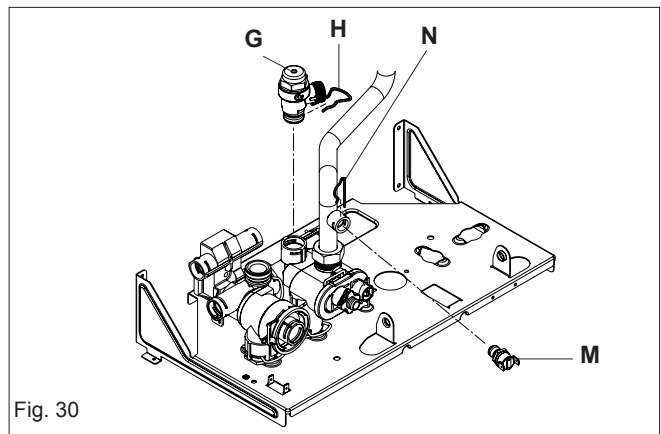

Fig. 30
6.8 WATER PRESSURE SWITCH (fig. 30)